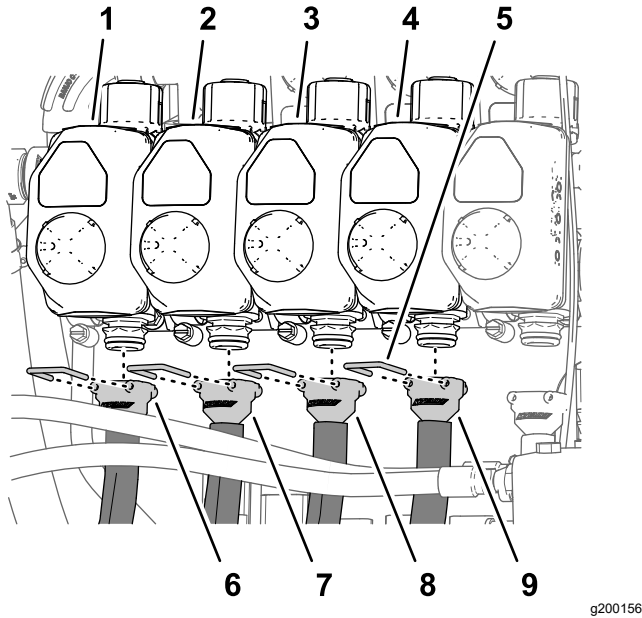
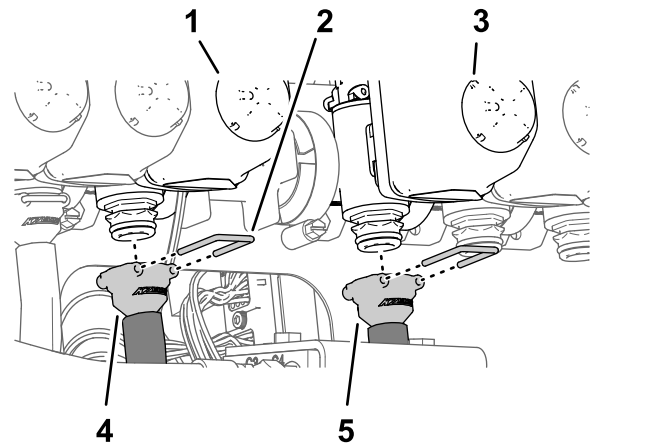
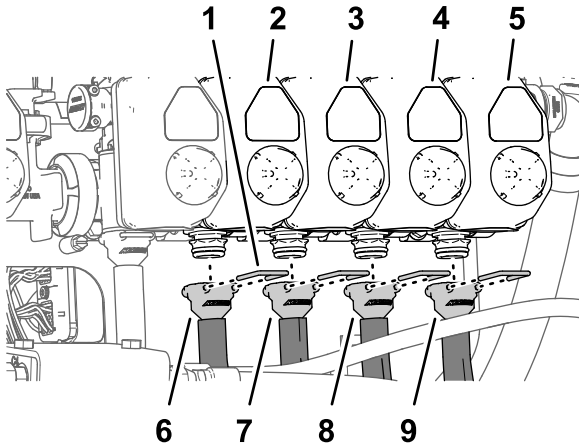

Figure 129
Figure 130
Figure 131
Note: Refer to Figure 129 in Assembling the Hoses to Nozzle Valves 1 through 4 \(page 62\), Figure 130 in Assembling the Hoses to Nozzle Valves 5 and 6 \(page 62\), and Figure 131 in Assembling the Hoses to Nozzle Valves 7 through 10 \(page 63\) for the nozzle-valve positions.
1. Assemble the straight barbed fitting of a supply-hose 279 cm (110 inches) onto the coupler of nozzle valve 1 (Figure 129).
2. Secure the barbed fitting to the coupler with a retainer (Figure 129).
3. Assemble the straight barbed fitting of a supply-hose 234 cm (92 inches) onto the coupler of nozzle valve 2 (Figure 129).
4. Secure the barbed fitting to the coupler with a retainer (Figure 129).
5. Assemble the straight barbed fitting of a supply-hose 188 cm (74 inches) onto the coupler of nozzle valve 3 (Figure 129).
6. Secure the barbed fitting to the coupler with a retainer (Figure 129).
7. Assemble the straight barbed fitting of a supply-hose 188 cm (74 inches) onto the coupler of nozzle valve 4 (Figure 129).
8. Secure the barbed fitting to the coupler with a retainer (Figure 129).
1. Assemble the straight barbed fitting of a supply-hose 81 cm (32 inches) onto the coupler of nozzle valve 5 (Figure 130).
2. Secure the barbed fitting to the coupler with a retainer (Figure 130).
3. Assemble the straight barbed fitting of a supply-hose 81 cm (32 inches) onto the coupler of nozzle valve 6 (Figure 130).
4. Secure the barbed fitting to the coupler with a retainer (Figure 130).
1. Assemble the straight barbed fitting of a supply-hose 188 cm (74 inches) onto the coupler of nozzle valve 7 (Figure 131).
2. Secure the barbed fitting to the coupler with a retainer (Figure 131).
3. Assemble the straight barbed fitting of a supply-hose 188 cm (74 inches) onto the coupler of nozzle valve 8 (Figure 131).
4. Secure the barbed fitting to the coupler with a retainer (Figure 131).
5. Assemble the straight barbed fitting of a supply-hose 234 cm (92 inches) onto the coupler of nozzle valve 9 (Figure 131).
6. Secure the barbed fitting to the coupler with a retainer (Figure 131).
7. Assemble the straight barbed fitting of a supply-hose 279 cm (110 inches) onto the coupler of nozzle valve 10 (Figure 131).
8. Secure the barbed fitting to the coupler with a retainer (Figure 131).